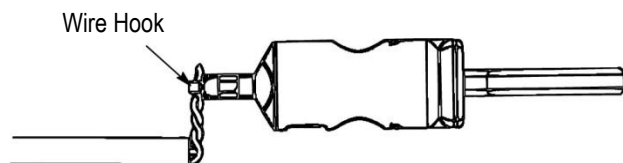

Figure 4
5. UNTWISTING TWISTED WIRE PAIRS (Figures 4 & 5)
2. Place the twisted wire pair in the wire hook and release the plunger to clamp the wires. See Figure 4.